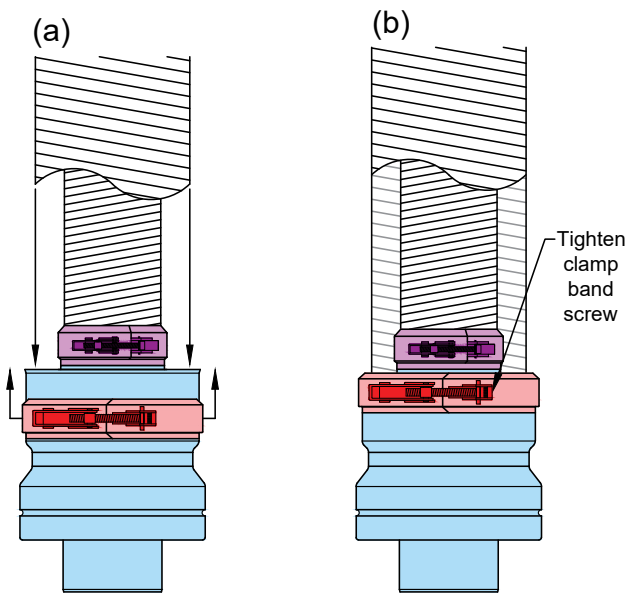

Figure 4-7: Fitting outer flue liner to adaptor
Refer to Figure 4-7 (a).
11. Position the stainless steel clamp band provided over the joint between the outer liner and adaptor socket. Close the toggle clip ensuring that the sloping top edge of the clamp band grips onto the corrugations of the outer liner. Refer to Figures 4-7.
Refer to Figure 4-7 (b).